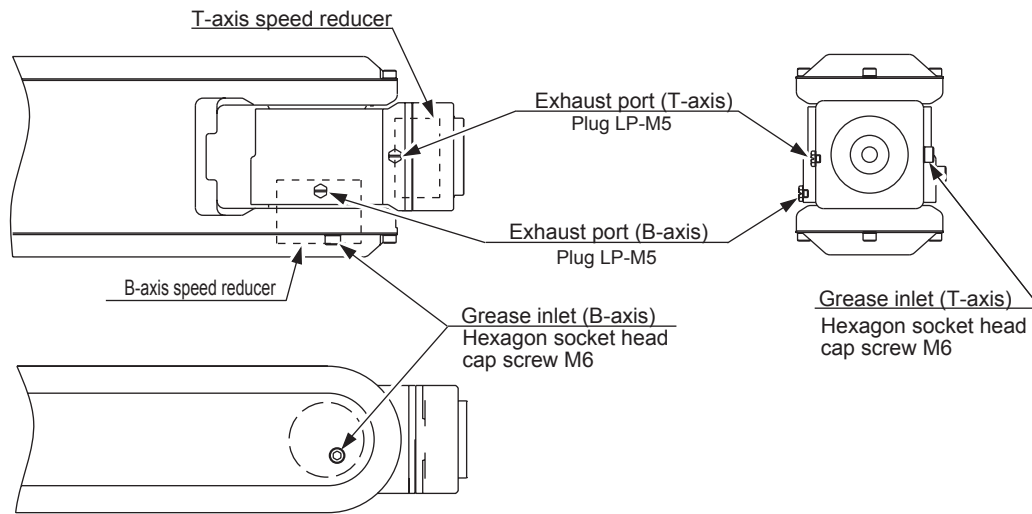

Fig. 32 B- and T-Axes Speed Reducers Diagram
3. Inject grease into the grease inlets using a grease gun. (Refer to " Fig. 32 B- and T-Axes Speed Reducers Diagram ".)